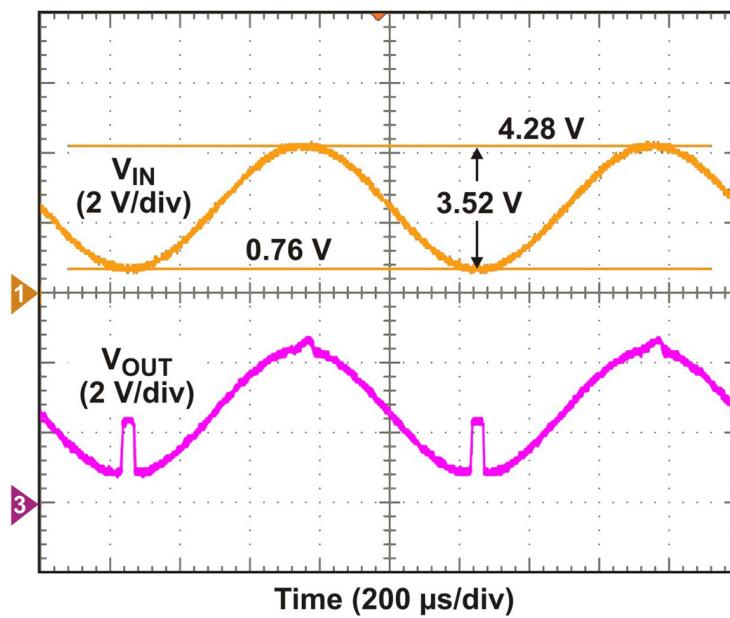
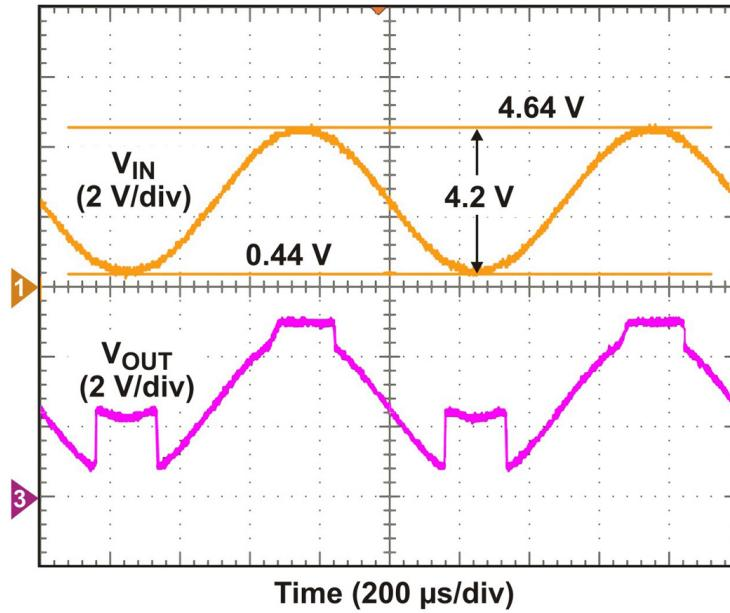

Figure 5: Onset of non-linear output behavior for TL971 when $V_{IN} = 3.52 \text{ Vp-p}$.
Figure 6: Non-linear output behavior for TL971 when $V_{IN} = 4.2 \text{ Vp-p}$.
As V_{IN} is increased slightly more to 3.52 Vp-p, V_{OUT} starts to exhibit non-linear behavior near both the positive (5V) and negative (0V) rails (**Figure 5**). V_{IN} is further increased to 4.2 Vp-p to clearly exceed V_{ICMR} . As the input peak exceeds the limit near the positive rail, the signal at V_{OUT} rails out as it jumps up to the positive rail (5V) and stays there until V_{IN} returns to an acceptable range (**Figure 6**). As the input drops below the limit near the negative rail, the signal at V_{OUT} exhibits a phase-reversal as it jumps to mid-rail (2.5V) and tracks V_{IN} with an offset until V_{IN} increases to an acceptable voltage within the V_{ICMR} .
- Figure 5 caption: Replaced **TLC7722** with **TL971**
- Figure 6 caption: replaced **TLC2272** with **TL971**